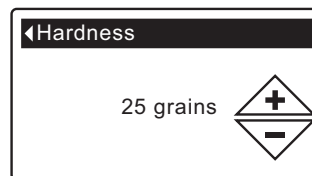

FIG. 46
5. Press the SELECT (O) button to display the Hardness screen (See Figure 46).